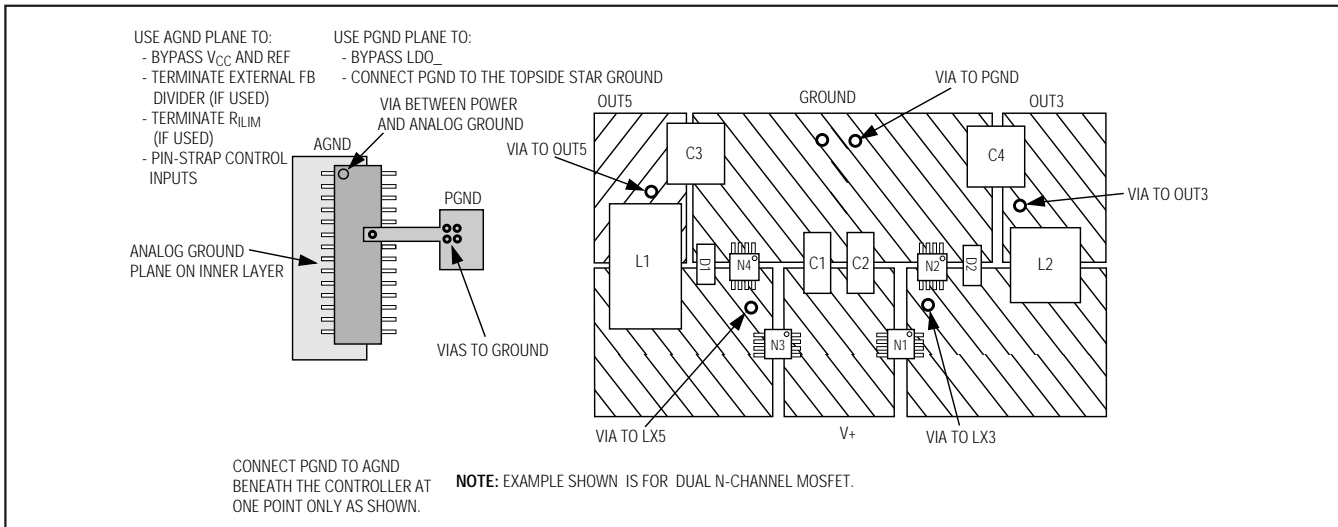

Figure 13. PC Board Layout Example
Careful PC board layout is critical to achieve minimal switching losses and clean, stable operation. This is especially true when multiple converters are on the same PC board where one circuit can affect the other. The switching power stages require particular attention (Figure 13). Refer to the MAX1999 EV kit data sheet for a specific layout example.
- 4) Make the DC-DC controller ground connections as follows: near the device, create a small analog ground plane. Connect the small analog ground plane to GND (Figure 13) and use the plane for the ground connection for the REF and VCC bypass capacitors, FB dividers, and ILIM resistors (if any). Create another small ground island for PGND, and use the plane for the V+ bypass capacitor, placed very close to the device. Connect the AGND and PGND planes together at the GND pin of the device.